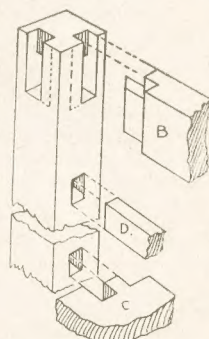
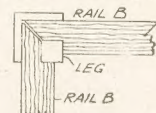

Fig. 4—Framing joints
Fig. 5—Corner joints
The first part to make is the frame for taking the structure. Make this from $\frac{3}{8}$ in. by $\frac{1}{2}$ in. wood and $3\frac{1}{2}$ ins. long, and round the ends off as shown in Fig. 2. Two cross bearers are needed $1\frac{1}{2}$ ins. in length from $\frac{1}{2}$ in. by $\frac{1}{2}$ in. material. Along the centre is another bar at least $\frac{3}{4}$ in. wide to take the sump heads as shown in Fig. 5, and also to allow the wheels to pivot on the front axle.
In making the table you will be greatly helped by the details given at Figs. 2 to 7. These clearly show the method of construction, and also give the principal dimensions. Figs. 2 and 3 show two side views of the table; Fig. 4 shows the method of framing the parts together; Fig. 5 explains the
In making the table the first operation will be to plane up the legs and the cross rails, and to frame them together. The side rails are mortised and tenoned into the legs, as shown in Figs. 4 and 5, and the mortises and tenons should be set out with the marking gauge and try square or a set square.
The mortises are cut from each side of the legs until they meet in the middle, and the ends of the tenons must be mitred to meet in the mortises, as shown in the plan at Fig. 5.
The shelf (C) should next be framed into the legs; it is notched over the legs, and is stub-tenoned into them, as shown at Fig. 4. The tenons which are formed at the ends of the shelf are ¾in. long by ¾in. wide, and care must be taken to cut these tenons so they will be in a line with the small rails which are framed between the shelf, the side rails and the legs, as given in the detail in Fig. 4. The small rails at the sides are then framed together, and let into the shelf, top rails and the legs.